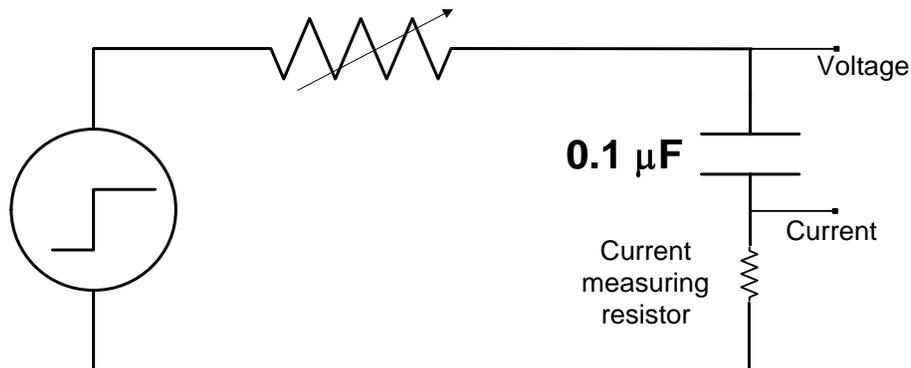

Fig. 1. The experimental R-C circuit.
1. (a) Construct the R-C circuit of Figure 1. Use a  $510\ \Omega$ .